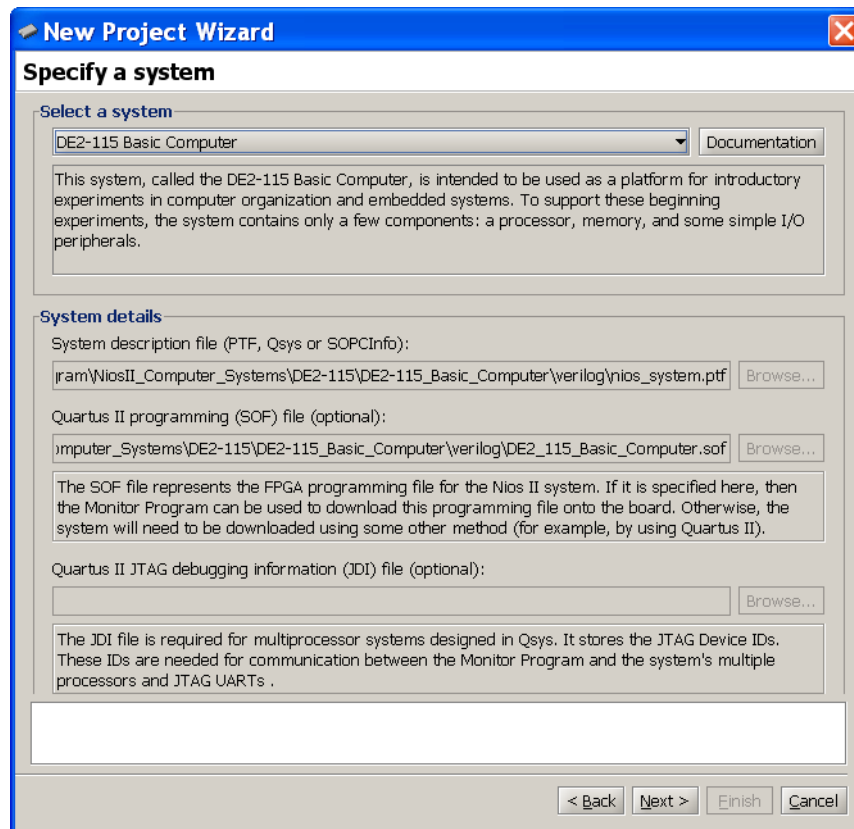
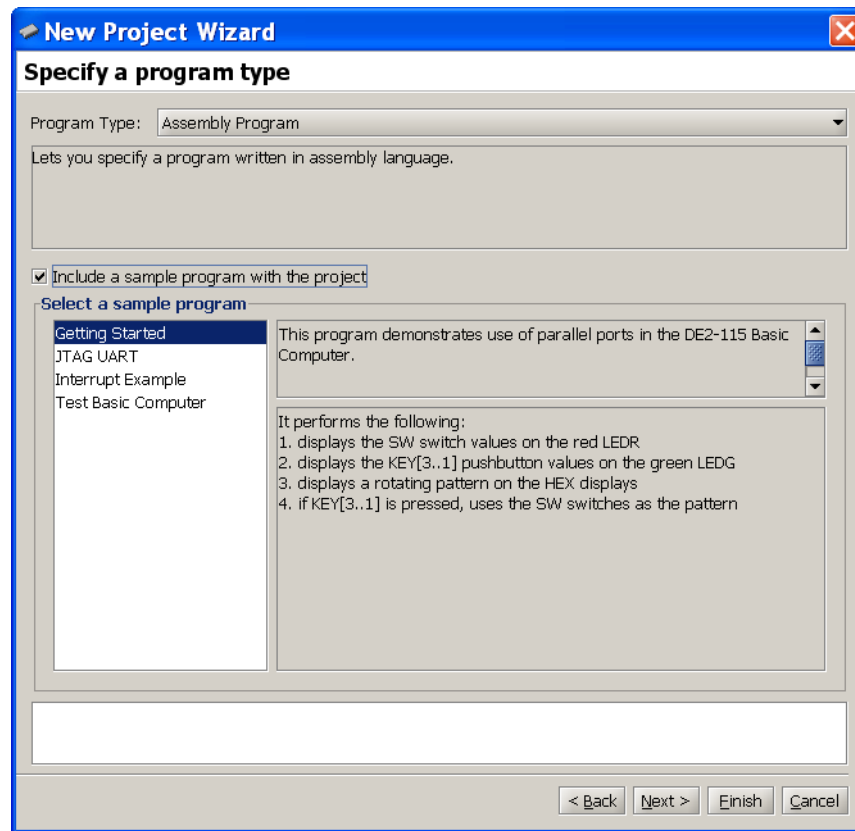

Figure 6. Specifying the Nios II hardware system.
Figure 7. Selecting a program type and sample program.
2. Click **Next** to advance to the window shown in Figure 6, which is used to specify a Nios II hardware system. Nios II-based systems are described by a *.ptf* or *.qsys* file, which are generated by the Altera SOPC Builder
As depicted in Figure 6, select the pre-built system named *DE2-115 Basic Computer*. In the top right corner of the screen there is a **Documentation** button. Clicking on this button opens a user guide that provides all information needed for developing Nios II programs for the DE2-115 Basic Computer, such as the memory map for addressing all of the I/O devices in the system. This file can also be accessed at a later time by using the command **Settings > System Settings** and then clicking on the **Documentation** button.
3. Click **Next** to advance to the screen in Figure 7, which is used to specify the program source files that are associated with the project. The **Program Type** drop-down list can be used to select one of the following
For this example, set the program type to **Assembly Program**. When a pre-built Nios II computer system has been selected for the project, as we did in Figure 6, it is possible to click on the selection **Include a sample program with the project**. As illustrated in Figure 7 several sample assembly language programs are available for the DE2-115 Basic Computer. For this tutorial select the program named *Getting Started*.